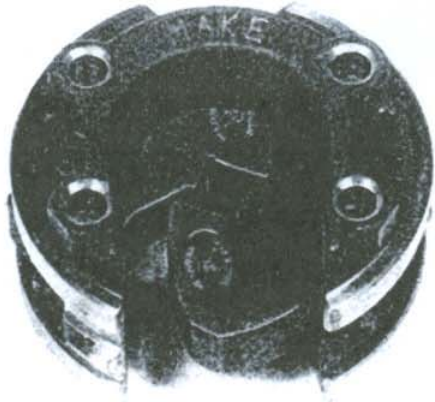

FIGURE 2
- I. The inner ring rotates in the direction indicated on the top and bottom of the inner ring assembly. The side marked "MAKE" is for making up rods. The side marked "BRAKE" is for breaking out rods. The jaw points in the direction that the rods will turn (ref. Figure 2 and 3, page 8).
- I. Inner ring assemblies are manufactured with an indexing knob on the side (see Figures 2 and 3). The purpose for this is to prevent installing the inner ring upside down or out of time with the outer ring. It also makes it necessary to line up the opening in the tong case, as described.